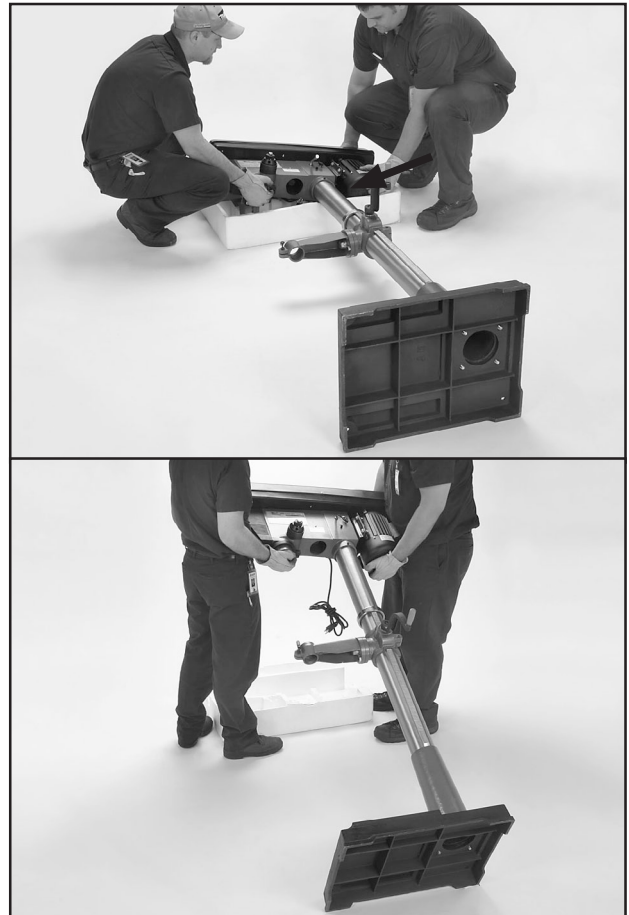

Figure 12. Tilting drill press upright.
5. Tilt the entire assembly up (see **Figure 12**) and carefully position the drill press on its base in the fully upright position.